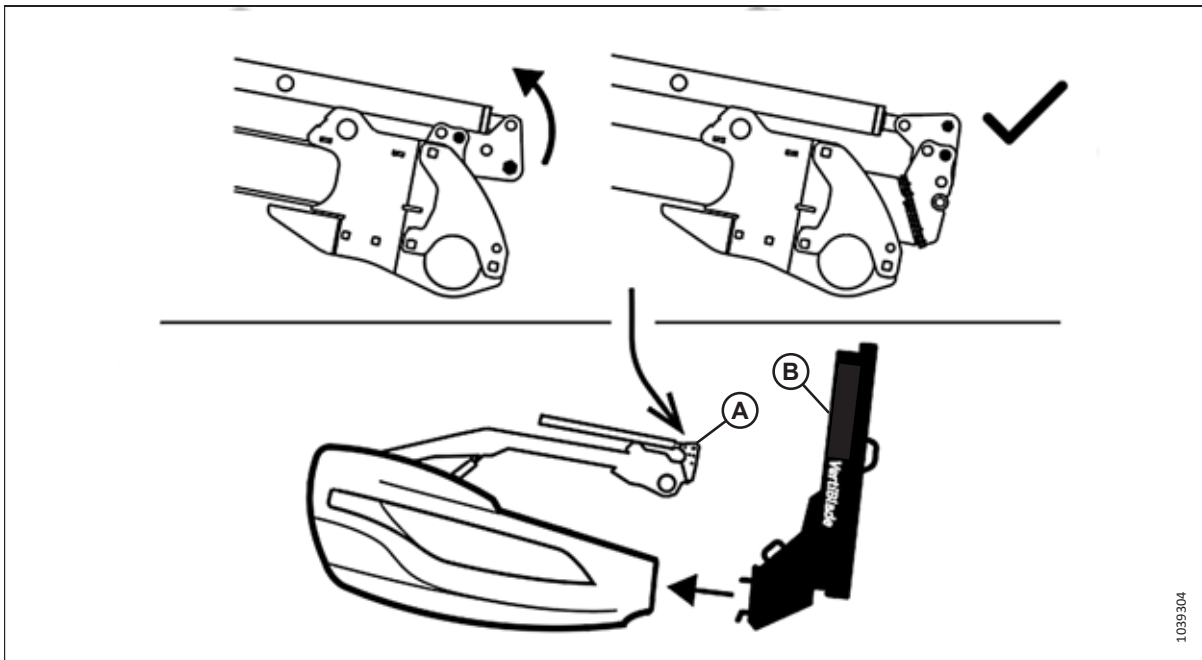

Figure 3.341: Reel Position with Vertical Knife Option Installed
To prevent contact between reel arm (A) and vertical knife (B), retract the reel fore-aft cylinder position as shown in Figure 3.341, page 238 before installing the vertical knives.
3. Remove hairpin (A) securing the multi-tool to the bracket on the left endsheet.
4. Remove multi-tool (B). Reinstall the hairpin.